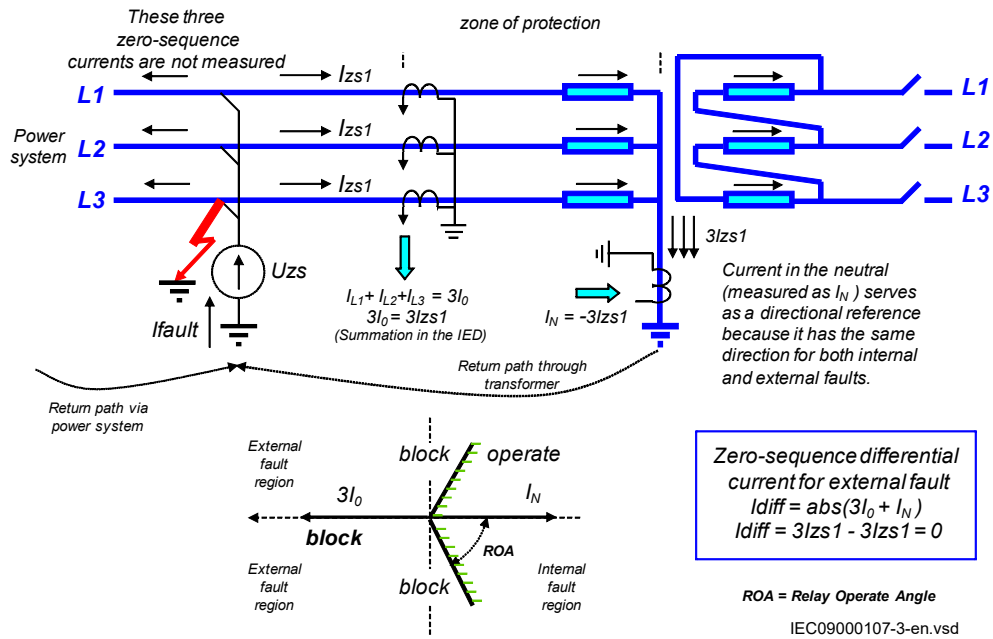
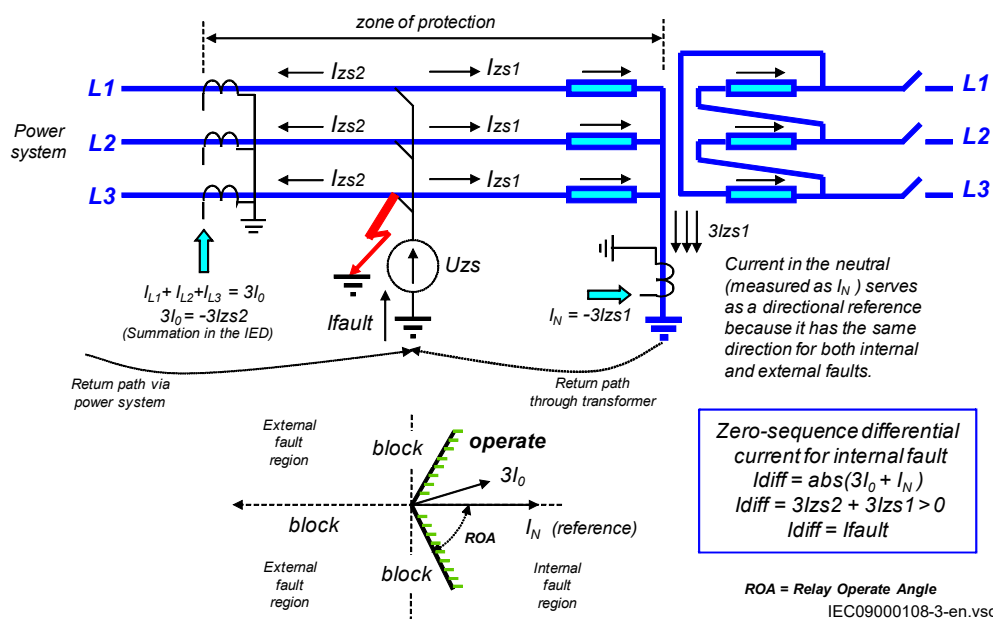

Figure 45: Zero sequence currents at an external earth fault
Figure 46: Zero sequence currents at an internal earth fault
The following facts may be observed from figure 45 and figure 46, where the three line CTs are shown as connected together in order to measure the residual $3I_0$ current, for the sake of simplicity.
1. For an external earth fault (figure 45), the residual current $3I_0$ and the neutral current I_N have equal magnitude, but they are seen by the IED as 180 degrees out-of-phase if the current transformers are connected as in figure 45, which is the ABB recommended connection. The differential current becomes zero as both CTs ideally measure exactly the same component of the earth-fault current.
As an additional measure against unwanted operation, a directional check is made in agreement with the above points 1 and 2. Operation is only allowed if the currents $3I_0$ and I_N (as shown in figure 45 and figure 46) are both within the operating region. By taking a smaller ROA, REFDPDIF can be made more stable under heavy external fault conditions, as well as under the complex conditions, when external faults are cleared by other protections.
The differential current (operate current), as a fundamental frequency phasor, is calculated as (with designations as in figure 45 and figure 46):
The bias current is the highest current of all separate input currents to REFPDIF, that is, of current in phase L1, phase L2, phase L3, and the current in the neutral point (designated as I_N in figure 45 and in figure 46).
For an external earth faults with no CT saturation, the residual current in the lines ($3I_0$) and the neutral current (I_N in figure 45) are theoretically equal in magnitude and are 180 degrees out-of-phase. The current in the neutral (I_N) serves as a directional reference because it has the same direction for both internal and external earth faults. The directional criterion in REFPDIF protection makes it a current-polarized protection.